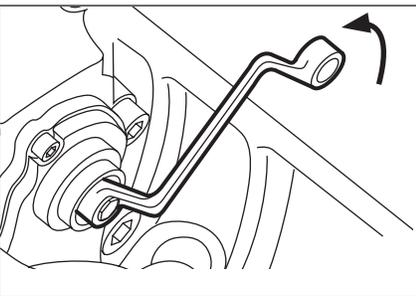
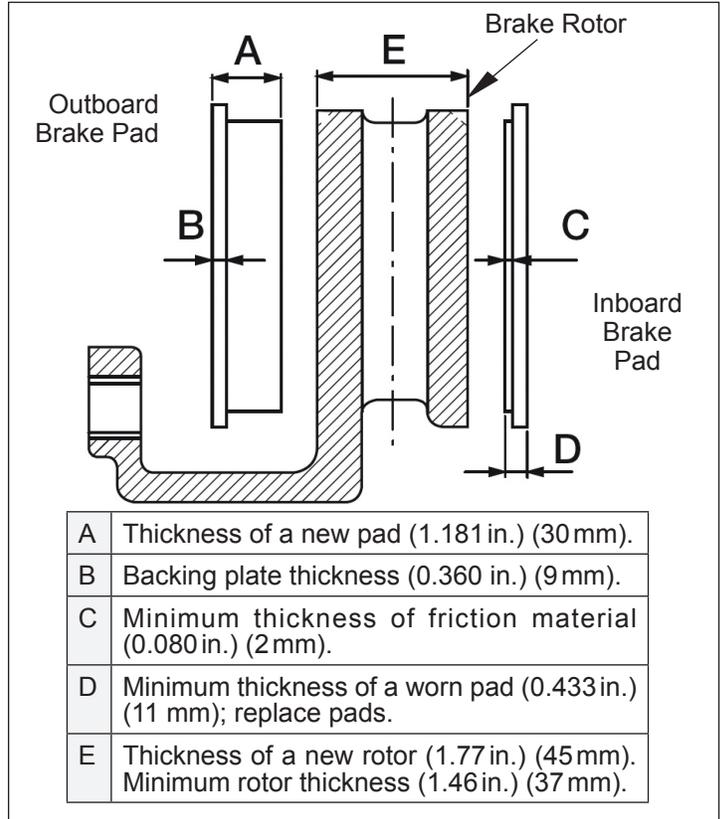

Figure 3 – Backing-off the Adjuster Mechanism
Figure 4 – Pad and Rotor Dimensions
5. Use a 10 mm 6-point box wrench (see *Figure 3*) to turn the adjuster counterclockwise until sufficient space exists to remove the brake pads. A clicking noise occurs as the adjuster turns.
6. Remove the inboard and outboard brake pads (1).
9. Measure the thickness of the friction material on the brake pads (see *Figure 4*).